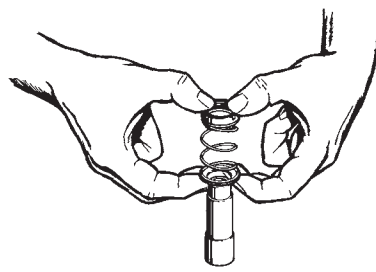

Figure 4-13
- d. Holding the element assembly between the thumb and index finger of both hands, refer to Figure 4-13, slide the assembly over the sleeve until the spring holder rests against the shoulder of the sleeve.